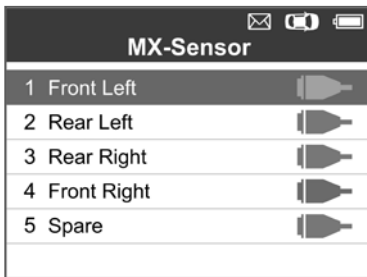
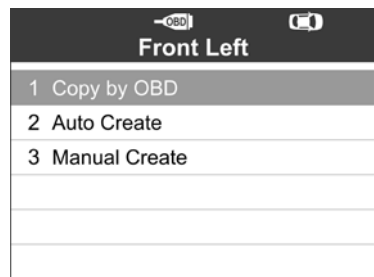

Figure 5.20
Figure 5.21
- 1) Follow the steps 1 to 7 in **5.1 Auto Create** to select **MX-Sensor** to enter the Programming function. The OBD mark will appear on the right side of the screen. (Figure 5.20) After selecting the specific wheel and pressing the **Y** button, the “Copy by OBD” option is available on the function menu. (Figure 5.21)